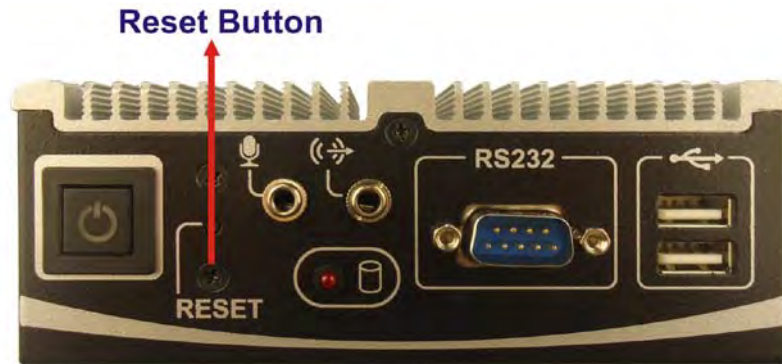

Figure 3-6: Reset Button Location
Step 1: Locate the reset button on the rear panel (**Figure 3-6**).